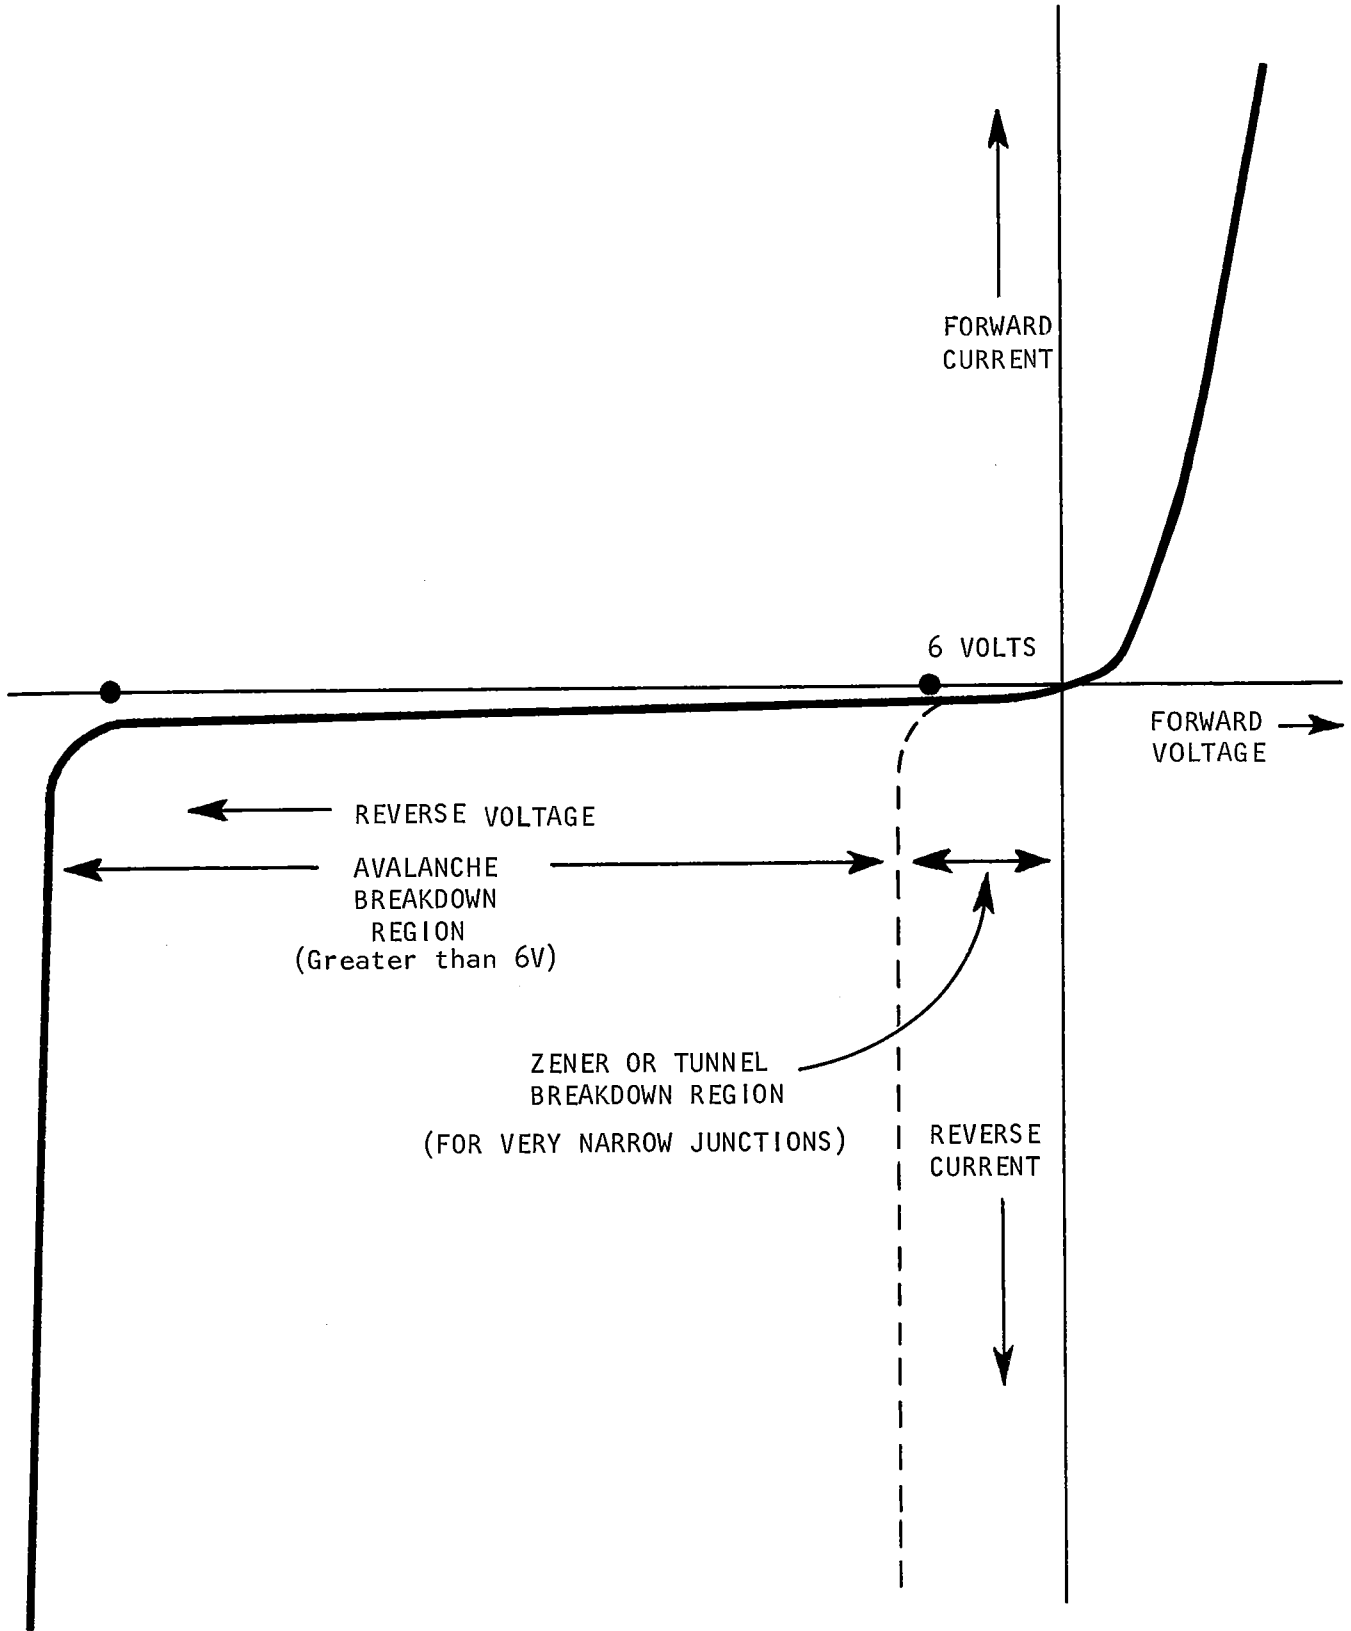

FIGURE 23
23.12 Diodes in avalanche breakdown have greater than 6 volts across their terminals and diodes in \_\_\_\_\_ breakdown have less than 6 volts across their terminals as shown in figure 23.